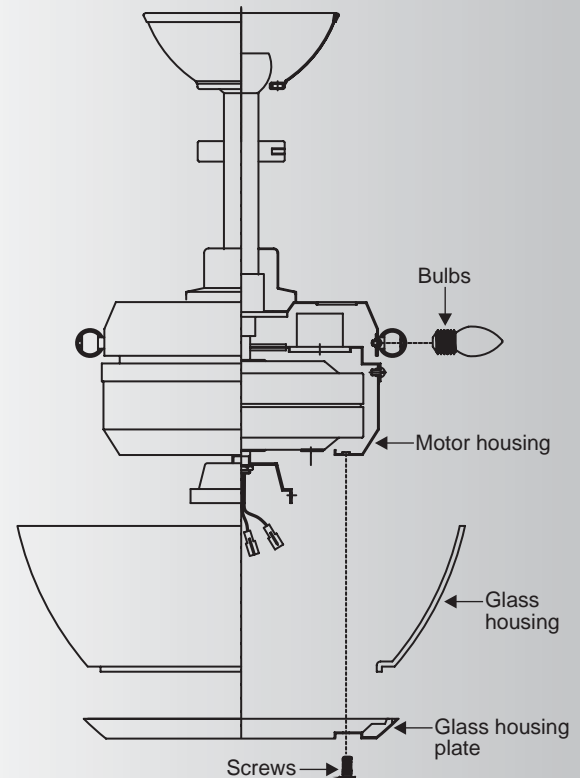

Fig. 17
2. Remove 1 of the 4 screws from the bottom of the motor housing and loosen the other 3 screws (Do not remove). (Fig. 17)
3. Raise and hold the glass housing close to the motor, place the key holes on the glass housing plate over the 3 screws previously loosened from the motor housing, turn glass housing plate until it locks in place at the narrow section of the key holes. Secure by tightening the 3 screws previously loosened and the one previously removed. (Fig. 17)